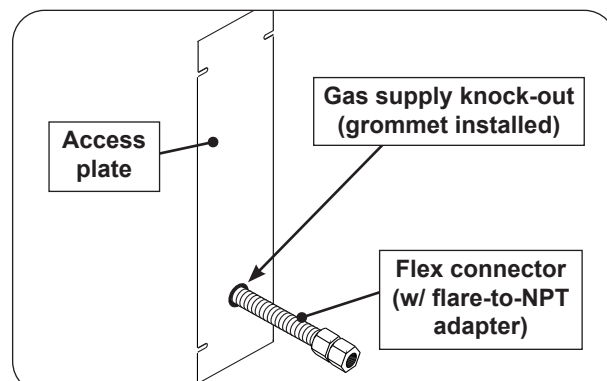

Fig. 29-4 Access plate view & install orientation
2. Remove the plastic grommet (attached to the flex connector) and insert it into the newly created opening. Then route the flex connector through the opening. See Fig. 29-4.